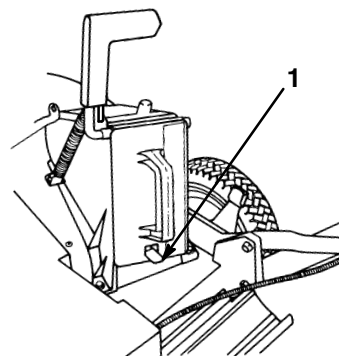

Figure 6
5. Push the plug all the way in until the spring clip on the bottom of the plug clicks into place (Fig. 6).